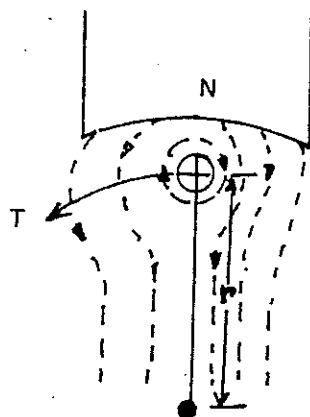

Figure 21.9
The force produced by the interaction of two magnetic fields is used to produce a turning motion or torque (T) on a conductor free to rotate through the field. A conductor located at a radius (r) from a pivot point in a magnetic field will experience a torque  $T = F r$  newton metres. (Figure 21.9).